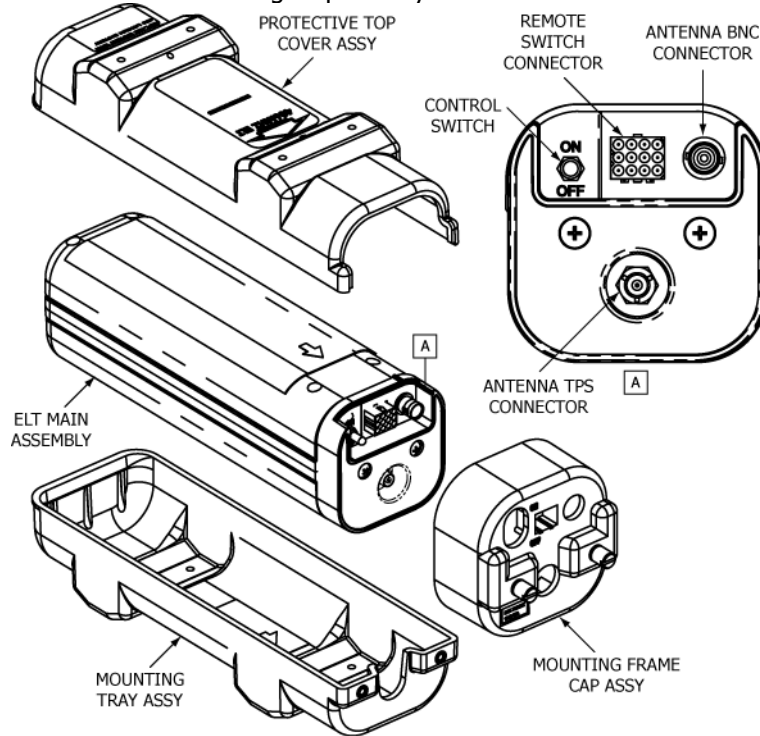

Figure 2 C406-2 Series ELT and Mounting Frame Assembly
- 1) The C406-2 Series ELT main assembly is housed in a high impact, fire resistant, polycarbonate plastic case, which is enclosed in a protective mounting frame assembly made of similar material. See Figure 2.